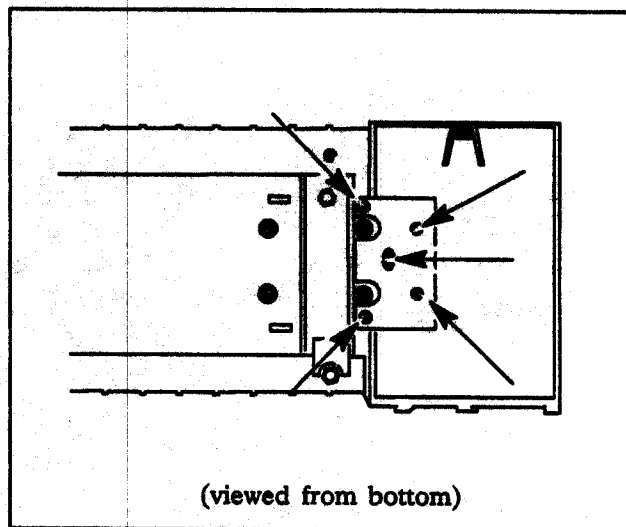

Figure 6-13. Right Shield Removal
- f. Remove the five screws securing the shield to the right base and the plotter chassis. See Figure 6-13.